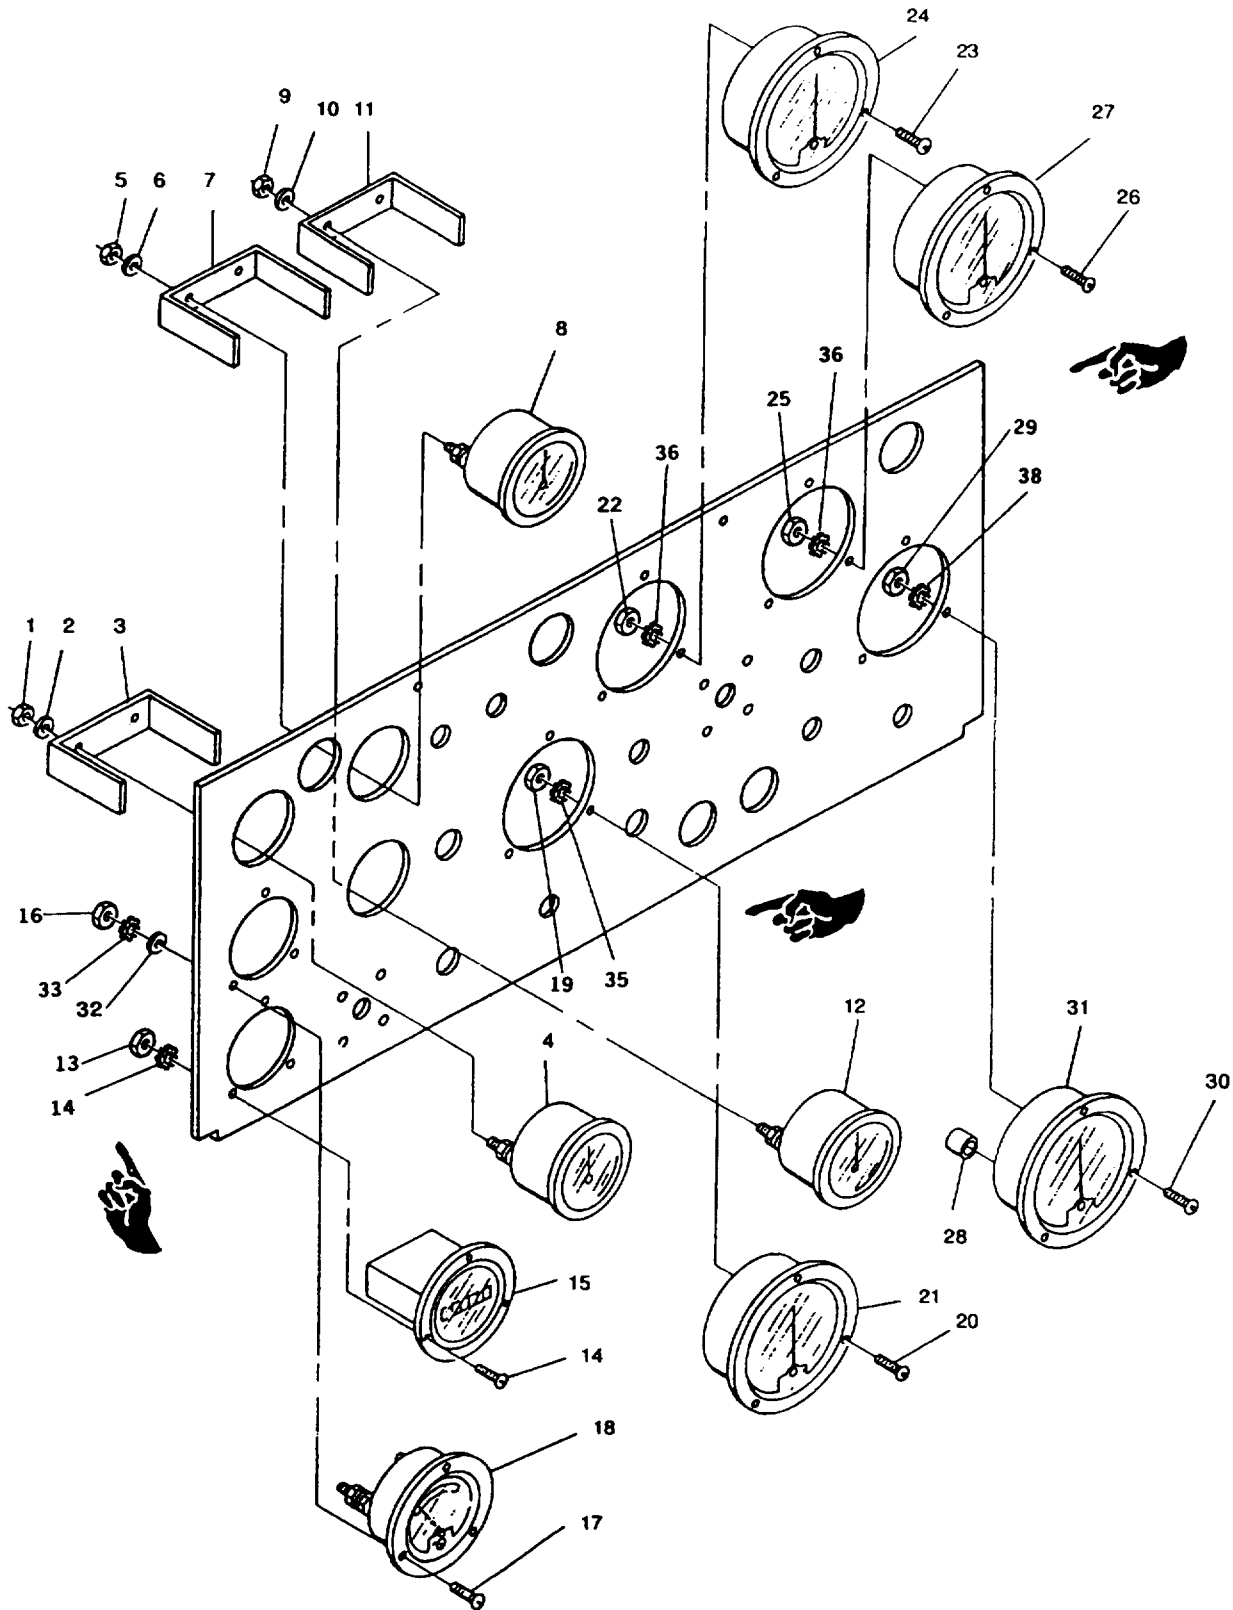

FIGURE 2-12. Control Panel Indicators
- d. Tag and disconnect FUEL LEVEL indicator (4, FIGURE 2-12) electrical leads.
- e. Remove nuts (1), washers (2), and damp (3).
- f. Remove FUEL LEVEL indicator (4) from control panel.
- a. Insert FUEL LEVEL indicator (4, FIGURE 2-12) into control panel.
- b. Install damp (3), washers (2) and nuts (1).
- d. Tag and disconnect COOLANT TEMP. indicator (8, FIGURE 2-12) electrical leads.
- e. Remove nuts (5), washers (6), and damp (7).
- f. Remove COOLANT TEMP. indicator (8) from control panel.
- a. Insert COOLANT TEMP. indicator (8, FIGURE 2-12) in control panel.
- b. Install damp (7), washers (6), and nuts (5).
- d. Tag and disconnect OIL PRESSURE indicator (12, FIGURE 2-12) electrical leads.
- e. Remove nuts (9), washers (10), clamp (11), and ground wire.
- f. Remove OIL PRESSURE indicator (12) from control panel.
- a. Insert OIL PRESSURE indicator (12, FIGURE 2-12) into control panel.
- b. Install clamp (11), washers (10), and nuts (9).